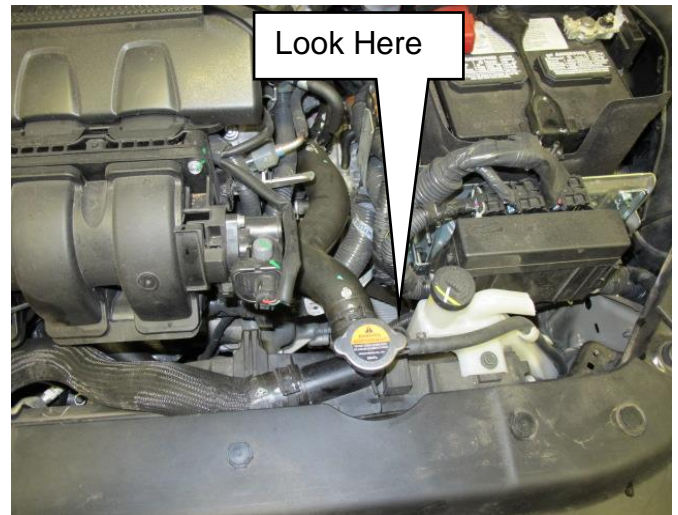

Figure 1
4. Locate the engine cooling fan blade date code (Refer to Figures 1 & 2).